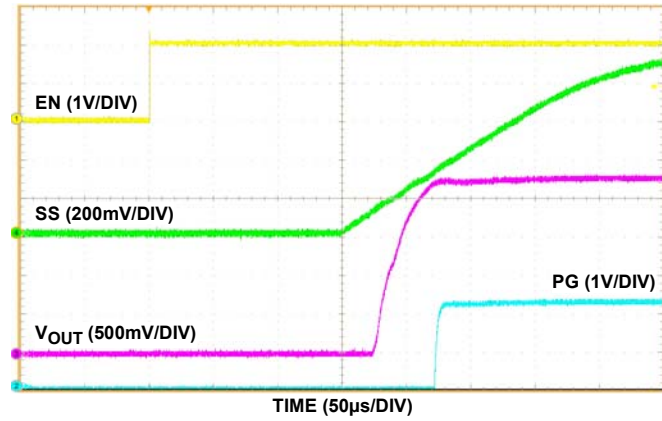

FIGURE 15. ENABLE START-UP SS CAP 1nF
If the current limit for inrush current is acceptable in the application, do not use the soft-start (SS) feature (leave the SS pin open). The soft-start circuit controls the rate at which the output voltage comes up to regulation at power-up or LDO enable. The external soft-start capacitor always gets discharged to ground pin potential at the beginning of start-up or enabling. After the capacitor discharges, it will immediately begin charging by a constant current source. The discharge rate is the RC time constant of R_{PD} and C_{SS} . Refer to Figures 15 through 19 in the “Typical Operating Performance Curves” beginning on page 8. R_{PD} is the ON-resistance of the pull-down MOSFET, M8. R_{PD} is typically 323 Ω .